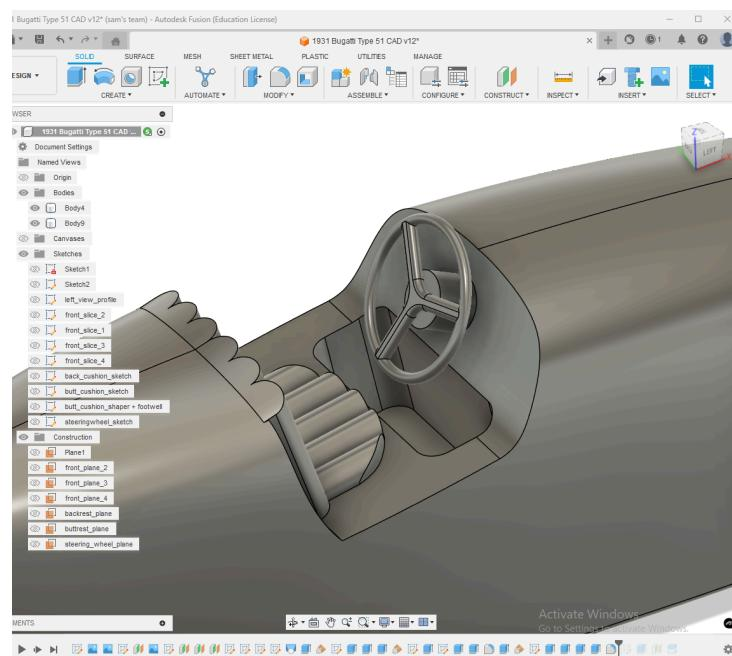

Fig. 18: Finishing touches on cockpit
7. Finishing touches can now be put on the cockpit, such as fillets on the steering wheel and curves on the lower seat cushion. See **Fig. 18** for visuals.